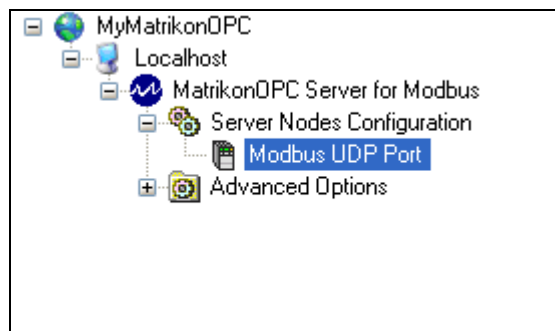

Figure 17 - New Modbus UDP Port Node
- Click on the **Create** button. The new item is created and appears as a child of the **Server Nodes Configuration** node in the navigation pane as shown in Figure 17.